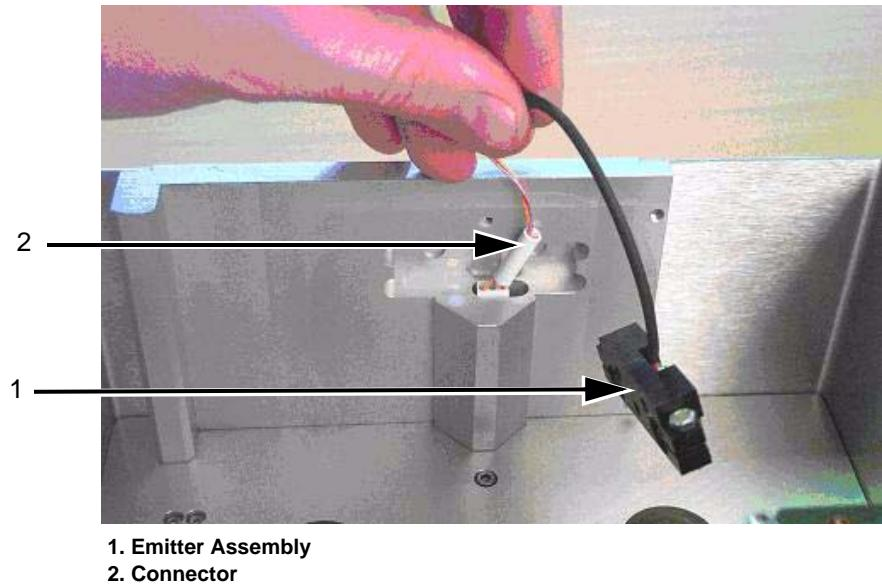

Figure 5-55: Emitter Assembly Removal
- 4 Pull the connector through hole in metalwork and remove the emitter assembly as shown in Figure 5-55.